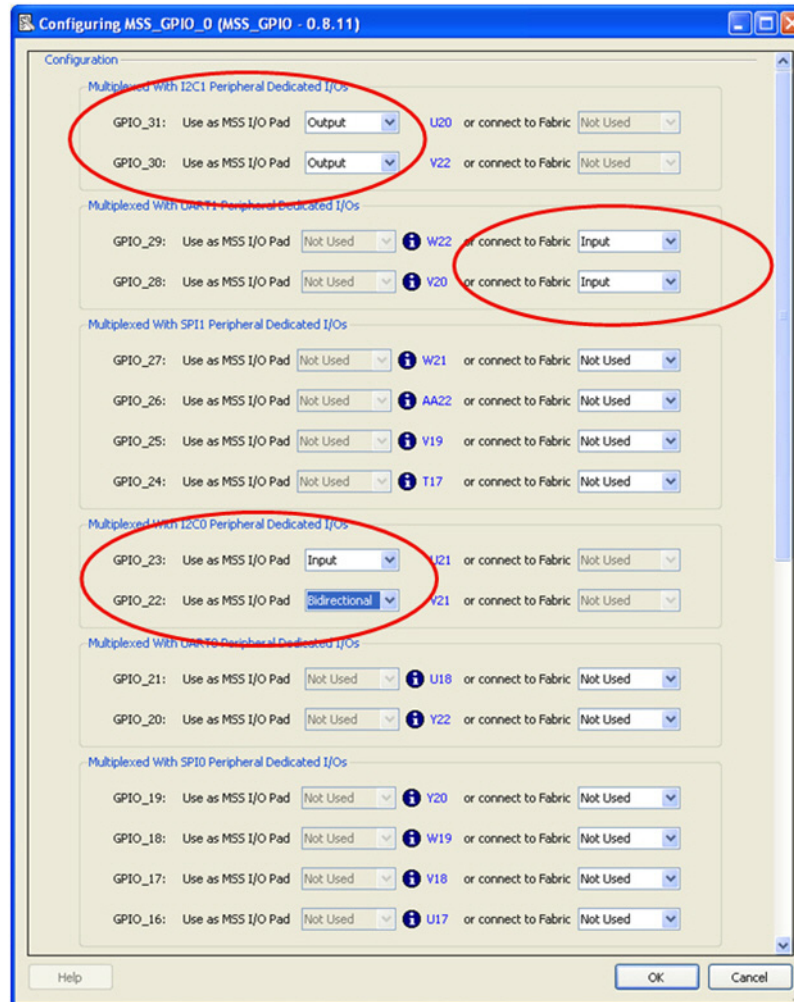

Figure 1-2 · GPIO Configuration Example 2
- GPIO[31:30] and GPIO[23:22] can be connected to an MSS I/O (as shown in Figure 1-2).